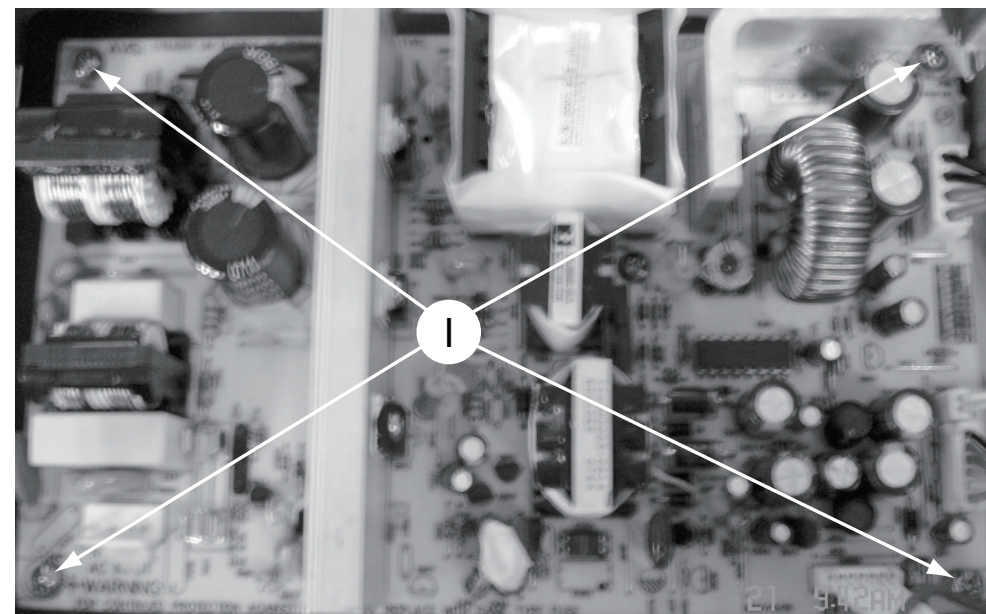

Figure 12
- 1) Loosen 4 screws "I" on the top of power board as shown in figure 12